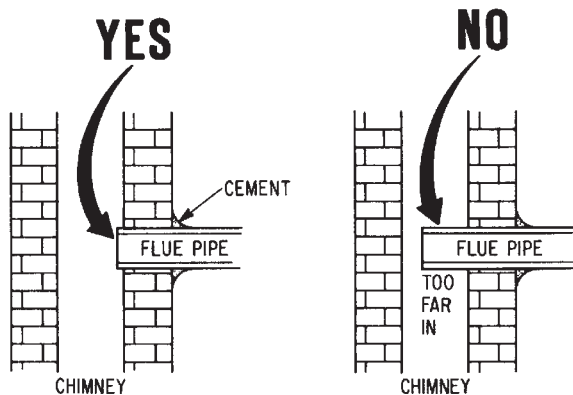

Figure 7
10. When connecting the flue pipe to the chimney, the pipe **MUST** go fully in and be cemented. See Figure 7. The flue pipe **MUST NOT** go too far into the chimney. It should be cut off as it will interfere with normal venting. See Figure 7.